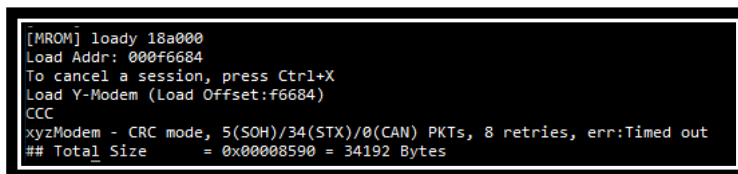

Figure 13: System Library Prompt on Command Window
1. At the [MROM] prompt, type `loady 18a000` to load a <System Library image> in boot index #0. See Figure 13.